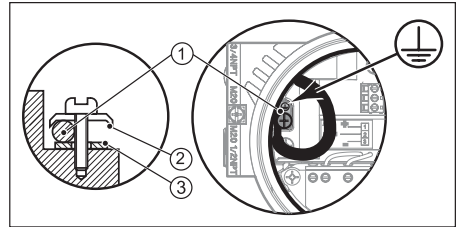

Fig. 4.1 Earth wire connections
- * If required, mount earth wire (1) between top (2) and bottom (3) ring of earth wire connection (see Figure 4.1).